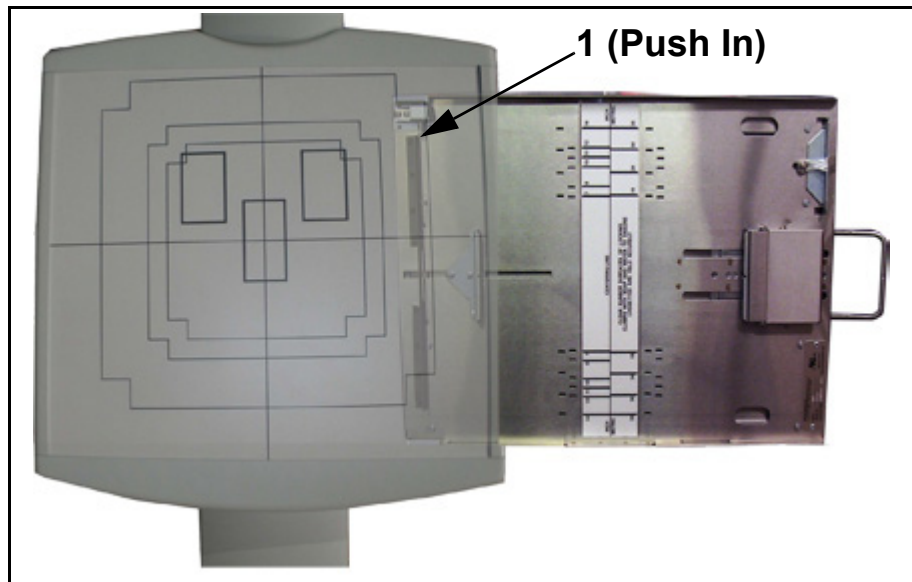

Figure 3-7. Cassette Tray Removal
- 2 While firmly pressing the cassette tray release latch (1 in Figure 3-7), pull the cassette tray completely out of the bucky.